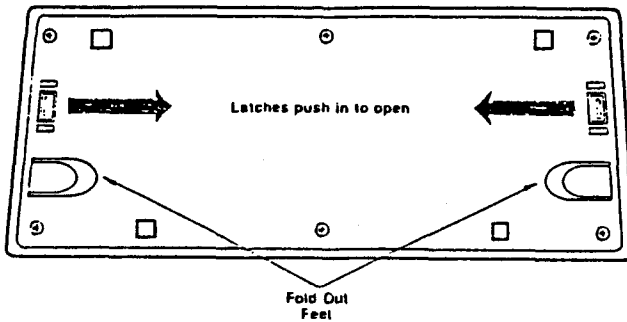

FIGURE 3-1 KEYBOARD BOTTOM
STEP 1 To lower the keyboard and open up the Genesis Portable, slide the keyboard latches in the front to an open position (inwards). Lower the keyboard, rotating it along its lower edge, as the keyboard cable extends from the cable opening. Refer to Figure 3-1.
STEP 8 Raise the keyboard, rotating it along its lower edge, as you insert the keyboard cable into the front panel cable opening. Slide the keyboard latches outward to the lock position and fold the feet in (the reverse of Figure 3-1).